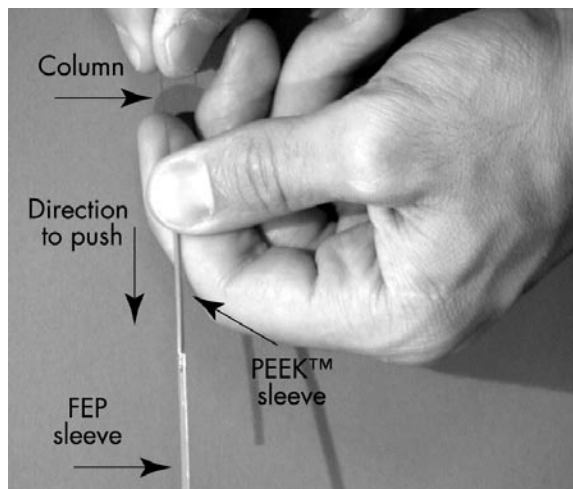

Figure 5.13: Pushing the PEEK™ sleeve against the FEP sleeve
- 4) Carefully push the PEEK sleeve against the FEP sleeve until the FEP sleeve falls off, as shown in Figure 5.13. This may take a LOT of force. You will have to move the PEEK sleeve about 3–5 mm. Grasp the column in one hand while pushing the sleeve off with the other hand.